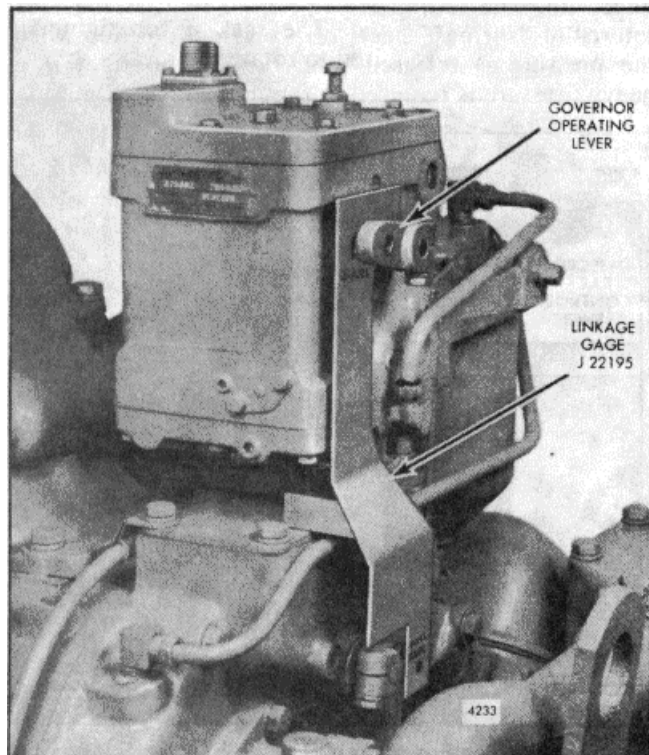

Fig. 4. - Governor Operating Lever In Position
15. Turn the terminal shaft clockwise to the no-fuel position. Then place the governor operating lever on the terminal shaft so that the bolt hole in the lever is aligned with the center of the slot in the linkage gage (Fig. 4). Remove the gage and tighten the clamping bolt on the lever.